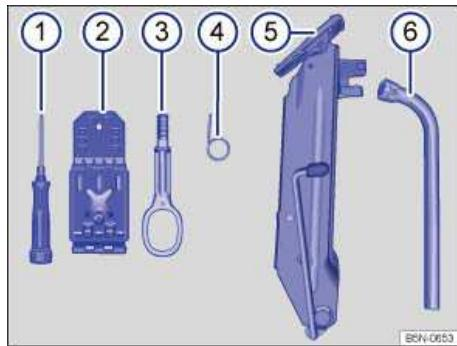
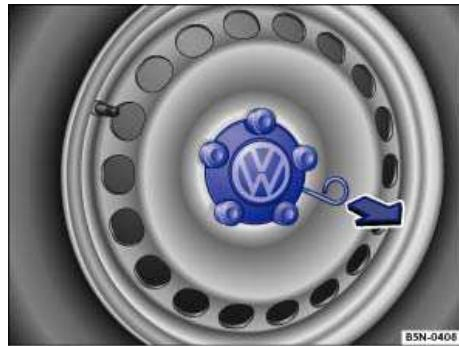

Fig. 190 Contents of the vehicle tool kit.
Fig. 192 Pulling off hubcap.
Contents of the vehicle tool kit ⇒ fig. 190
The folding chock is in the vehicle tool kit ⇒ fig. 190.
- *To remove* take the wire clip out of vehicle tool kit ⇒ fig. 190 \(4\) and hook it into the edge of the hubcap ⇒ fig. 192.